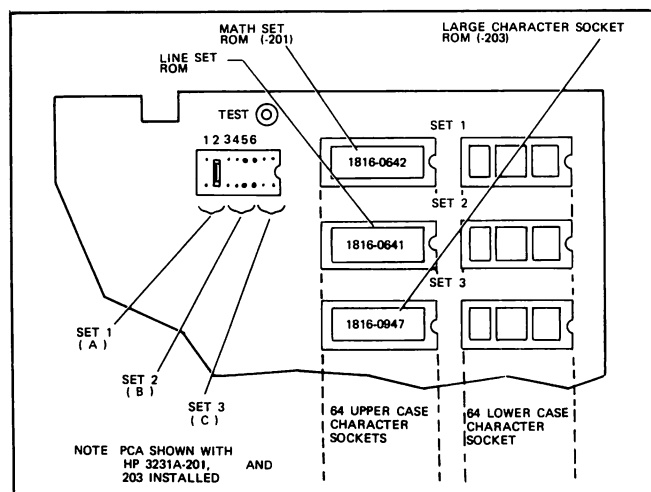

Figure 7-6. Display Enhancement PCA Jumper and ROM Socket Locations
- Using figure 7-6 and table 7-1 as a guide, check that Display Expansion PCA jumpers are arranged correctly for the ROM character set configuration. If there are no alternate character set ROM's installed (HP 13231A), all jumpers should be in the jumper socket.